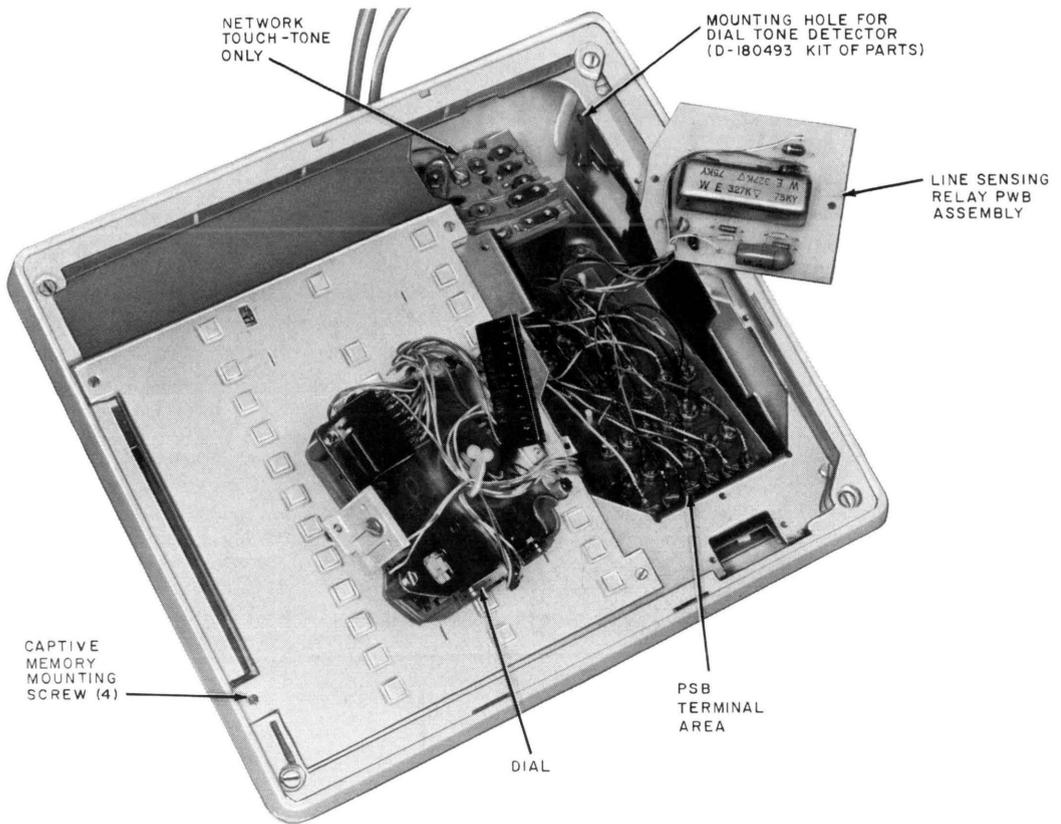

Fig. 3—2870A1 Dial, Dial and Memory Removed to Show Terminal Area
(1) Remove the housing (3.11), and access PSB terminal board (3.09).
(2) Insert the dial tone detector board assembly from the back of the dial, such that the two tabs on the board assembly fit into the slots in the chassis (Fig. 3).
(3) Insert the self-threading screw through the side of the chassis to secure the board in position.
- (4) Mount the one-touch calling switch below the dial with the two screws provided.
- (6) On the 870A1 dial, place the 8-type dial aside to gain access to some of the PSB terminals (Fig. 3). On the 2870A1 dial, carefully disengage the connector of the 35-type dial and rotate the dial onto the memory button field.
- (7) Remove the two mounting screws for the Line Sensing Relay Board and place the board assembly aside to access the remaining terminals on the PSB.
- (8) To reassemble, reverse this procedure.